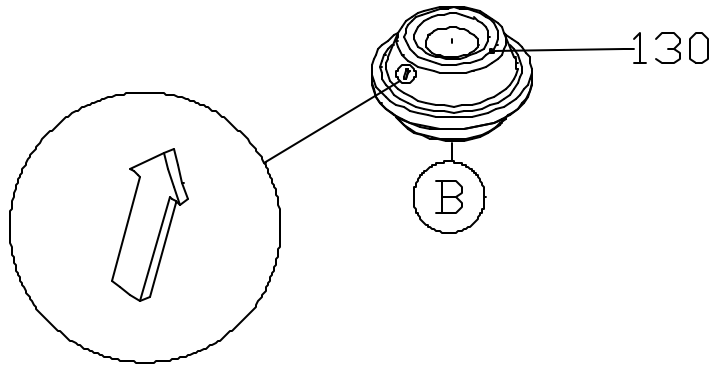

Fig1.
The bumper (ref. 124) 897337 must be installed with the arrow in the **UP** position. See Fig. 1 below.